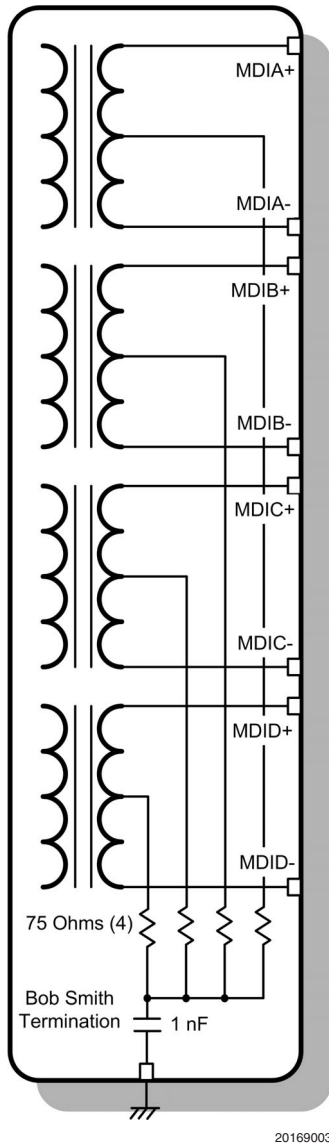
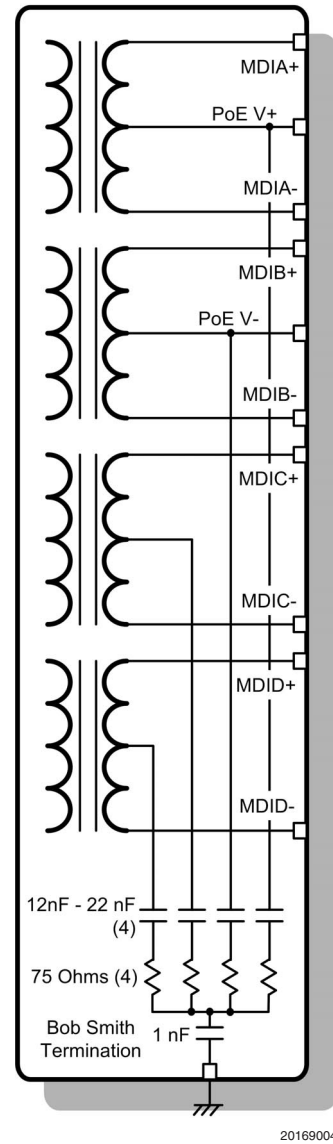

FIGURE 3. Legacy Ethernet Mag/Jack
FIGURE 4. PoE Capable Mag/Jack
together through 75-Ohm resistors. That prevents positive and negative terminals from being isolated in the PoE application (*Figure 3*). To make the transformers PoE capable, AC couplings were added in the Bob Smith termination to DC isolate each separate winding (*Figure 4*).
There are two sides to the Power over Ethernet system. The side that provides power is called Power Source Equipment (PSE) side, and the side that consumes power is called Power Device (PD) side. A detection scheme is designed to detect if there is PD connected at the destination. This prevents applying power to a legacy transformer shown in Figure 3. To detect PD device, the PSE applies a DC voltage between 2.8V to 10V across the power delivering lines. Based on the loop current, PSE determines if there is a PD connected. The PD should present a resistive load between 19 K to 27 K Ohms with a parallel capacitor 120 nF or less as a signature.